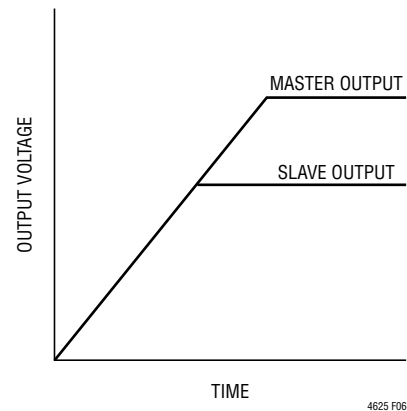

Figure 6. Output Coincident Tracking Waveform
Coincident output tracking can be recognized as a special ratiometric output tracking in which the master's output slew rate (MR) is the same as the slave's output slew rate (SR), waveform as shown in Figure 6.